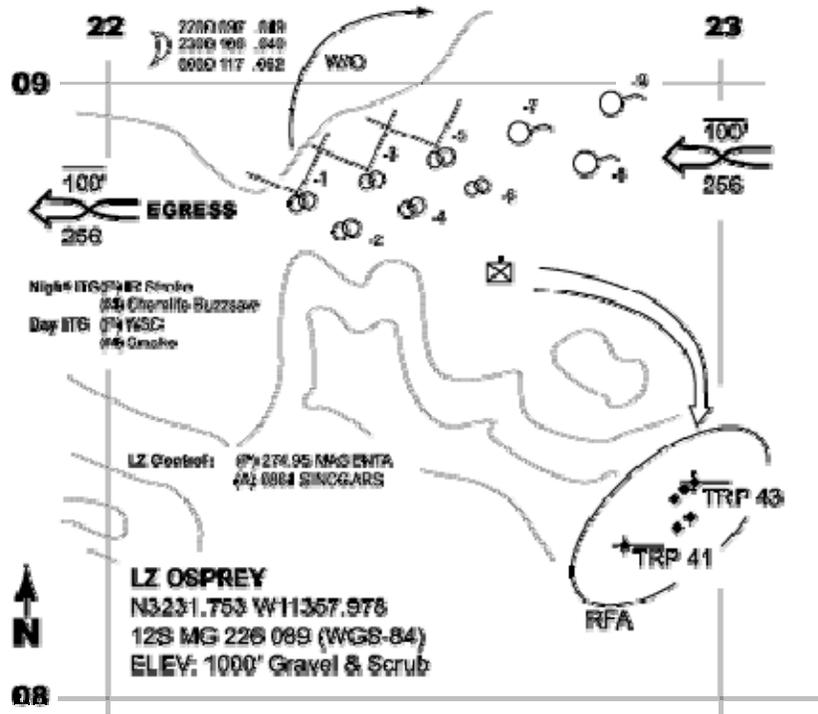

Figure 9-2. Insert Zone Diagram.
1. **Insert Zone is planned on Insert Zone Diagram.** See Figure 9-2. An Insert Zone Diagram is done for alternate LZs as well.